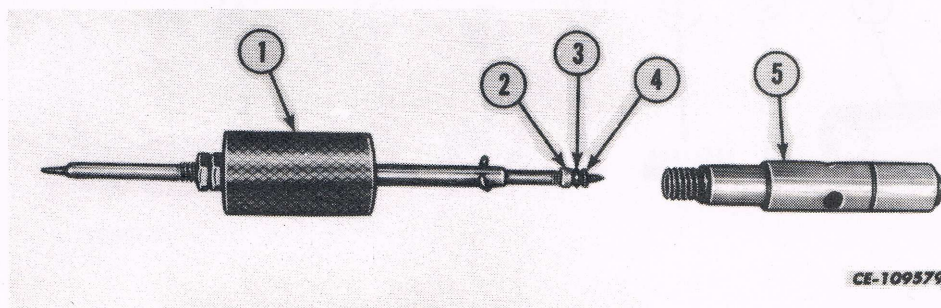

Fig. 48
7. Using carburetor jet tool, FES-36 (1), remove the actuator valve plug (2), "O" ring (3) and back-up washer (4). See Fig. 48.